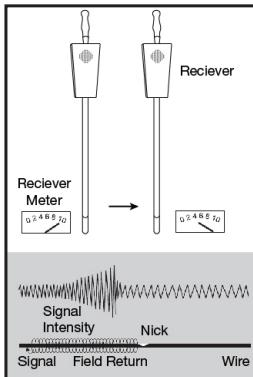

FIGURE 4:
To find wire nicks, continue along the path as previously described, tracking the null sound at the wire and the tone sounds along the sides. At some point the tone to either side of the null will weaken over the course of a short area. At this point, return to the point where the last strong signal was detected, and place the receiver tip on the ground approximately six (6) inches to one side of the null. Mark your null path if necessary. Adjust the sensitivity knob down until the meter reads just below 10 and move the receiver down the line, maintaining the 6-inch distance from null. Pay close attention to the meter reading as you move along the path—once you pass the wire nick the meter will fall off rapidly. (Refer to Figure 4)